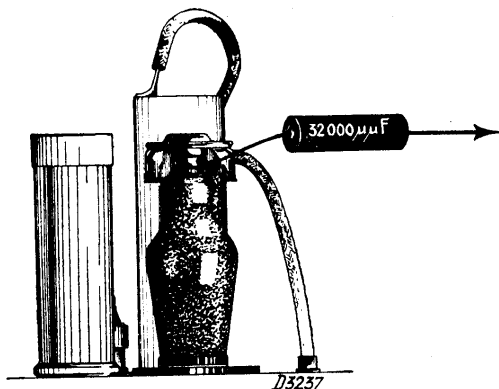

Fig. 2.
4. Apply modulated 128 K.C. signal across $32,000 \mu\text{F}$ to top of L1 (see Fig. 2).